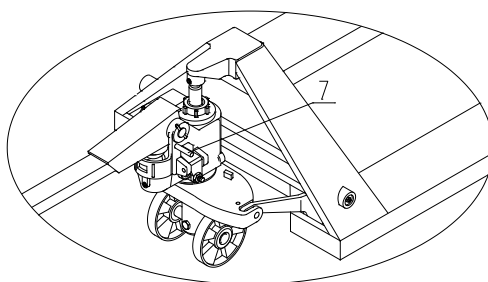

Fig. 3
- 3.6 See fig 3, turn the hand grip to the level position, pull out pin 7 and save pin 7 with care for next use.